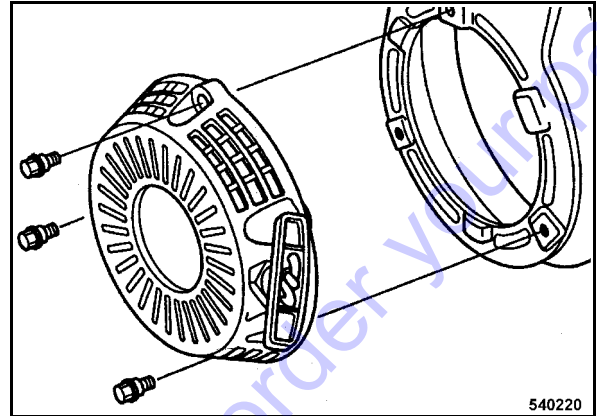

Fig. 68
- Disassemble the recoil starter from the engine housing (Fig. 68).